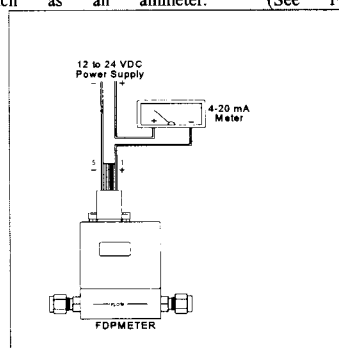

Figure 5: -20 mA Meter Connection
- 4-20 mA output meters **must be** powered via the DB9 connector. See Figure 5 for proper power connections for these meters
- Current output flowmeters provide an output span that ranges from 4 mA – 20 mA. The flowmeter draws 4 mA at zero flow and 20 mA at the full scale flow value. The linear output is transmitted through the DB9 connector to an external device, such as an ammeter. (See Figure 5)